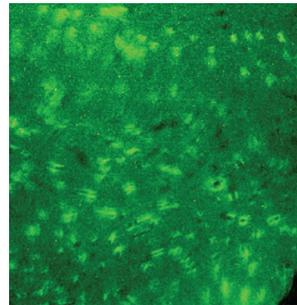
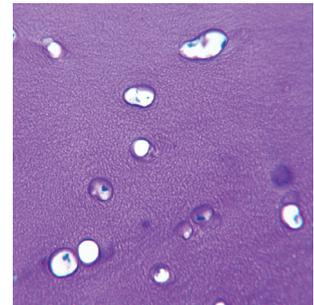

Figure 1: Immunohistochemistry staining for type II collagen
Figure 2: Proteoglycan content as evidenced by the presence of interterritorial granular matrix via toluidine blue staining
- BioCartilage extracellular matrix (ECM) contains the ECM that is native to articular cartilage, including key components such as type II collagen (Figure 1), proteoglycans (Figure 2), and additional cartilaginous growth factors.